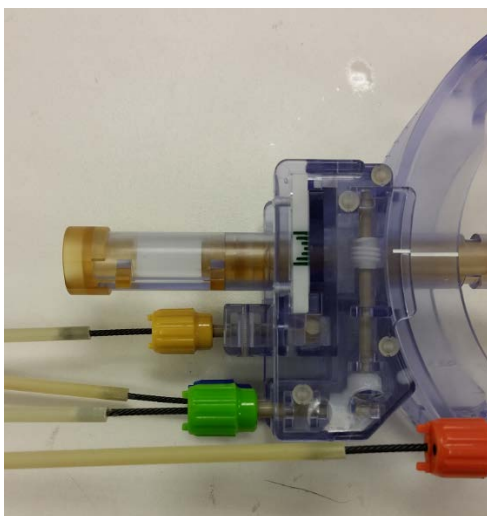

Figure 11: Attachment to Thumb Wheels
2. Attach the distal ends (wings) of the Thumb Wheel Extension Set to the matching-colored thumb wheels on the SMARTFrame XG. **See Figure 11.** You may need to rotate the Thumb Wheel Extension Set thumb wheels to properly orient the wings into the SMARTFrame thumb wheels. The wings should slide to the bottom of the thumb wheels and seat into place.